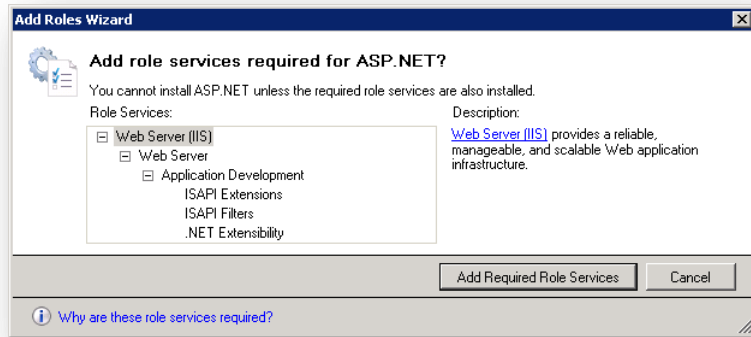

Figure 3 – Add Roles Wizard (Add role services required for ASP.NET)
4. Under the **Application Deployment** node, check the **ASP.NET** option. When the **Add Roles Wizard** pop-up appears, click **Add Required Role Services**. See Figure 3.